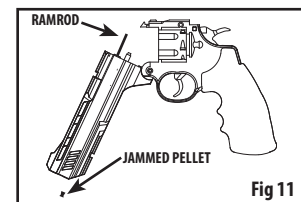

Fig 11
- Insert the tapered end of the cleaning rod (not included) into the barrel (Fig. 11).